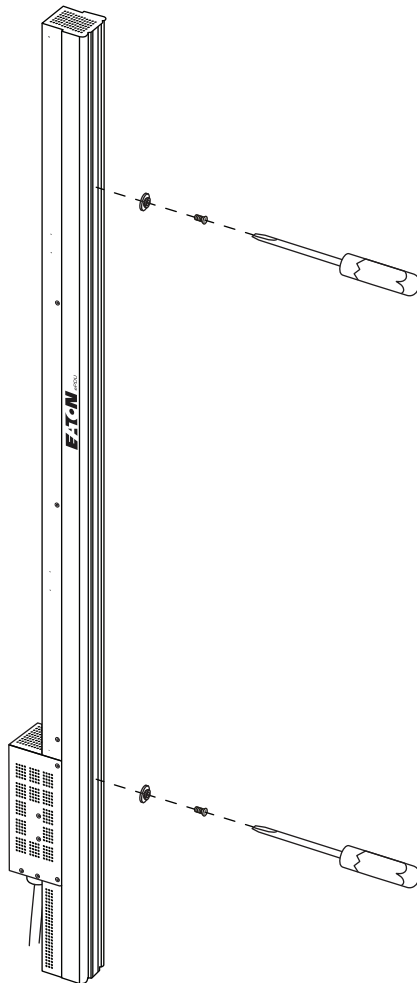

Figure 12. Installing the Mounting Buttons
2. Using the supplied screws and a Phillips screwdriver, install the mounting buttons on the ePDU far enough apart to stabilize the ePDU when mounted on the rail. See Figure 12.